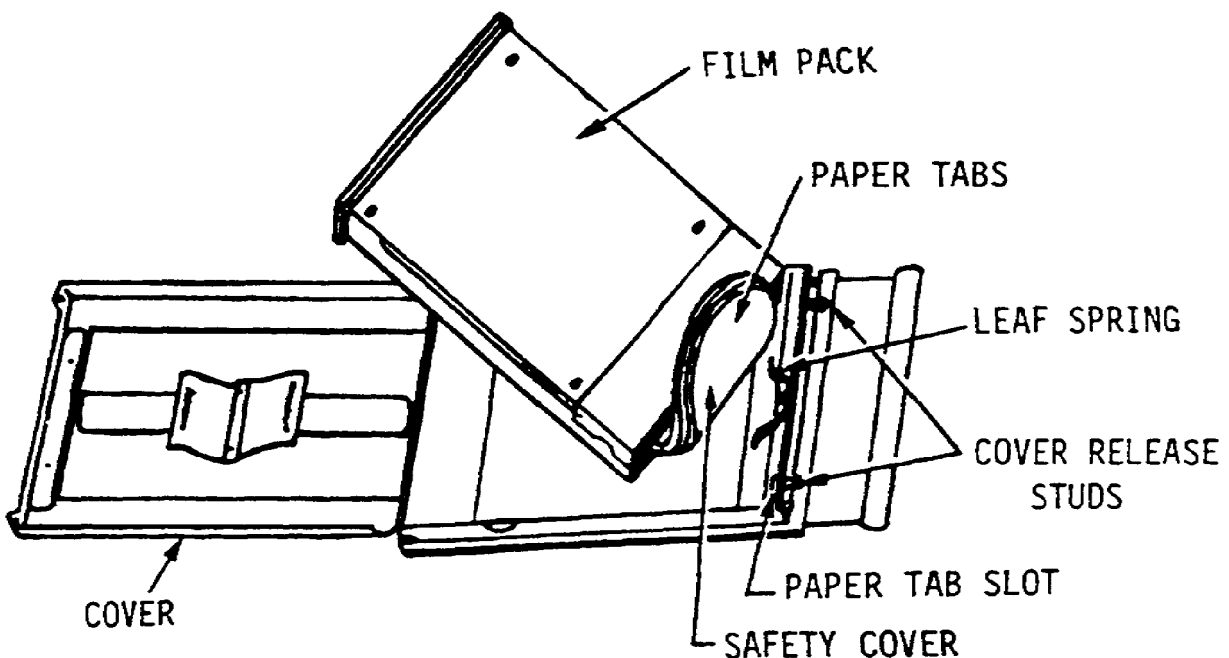

Figure 1-32. Film Pack Adapter.
(4) Slip the corners of the unnotched shorter edge of the cut-film under the film slips (along each long side of the septum) and slide the film completely into the holder.
(5) Swing the bottom flap closed and hold down firmly.
(6) Insert the dark slide into the slide channel so that the raised identification dots face up and away from the cut-film holder.
(7) Push the dark slide all the way into the cut-film holder; make sure the end of the leading edge of the dark slide engages the groove along the edge of the bottom flap.
(8) Turn the slide hook over the end of the dark slide to prevent accidental removal of the dark slide.
(9) Load the reverse side of the cut-film holder by repeating the procedures in (1) through (8) above.
(10) Load additional cut-film holders by repeating the procedures in (1) through (9) above.
c. Loading film pack adapter (fig 1-32). The film pack adapter may be loaded under existing lighting conditions. DO NOT expose the film pack to direct sunlight during loading.